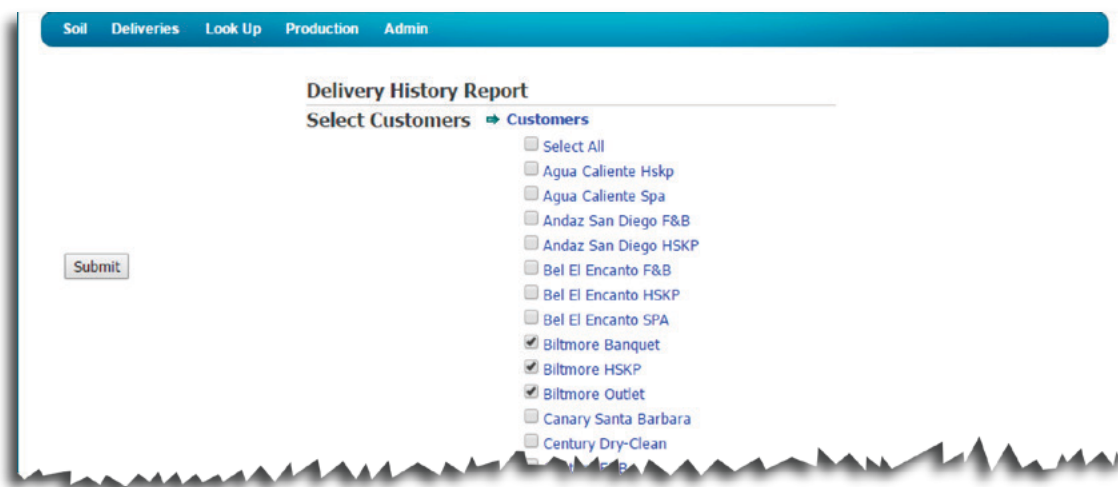

Figure 37. Criteria selection screen: expanded view.
1. Click the small green arrow pointing at the word “Customers.” Depending on the report, the arrow may point at “items.” The list expands (see Figure 37).